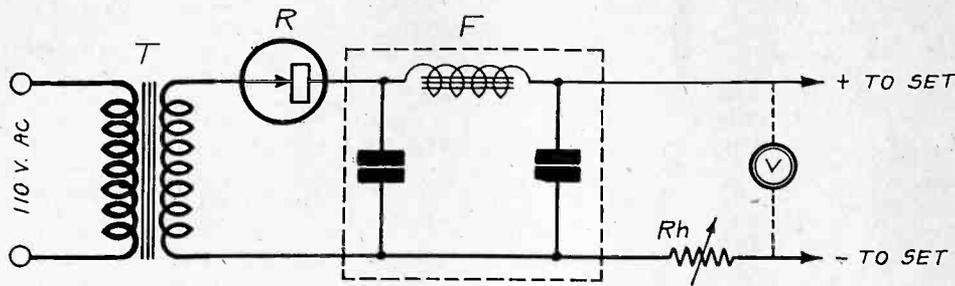

FIG. 670
(1)—Fig. 670 shows the circuit diagram.